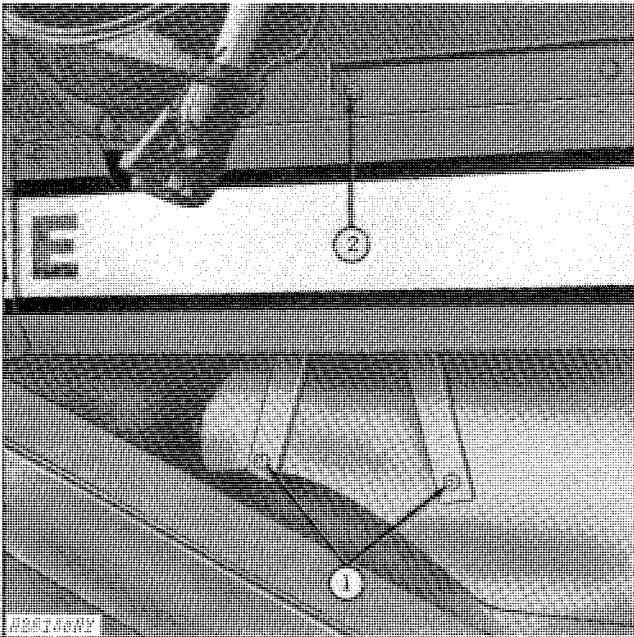

Fig. 15-Removing Shipping Braces
1. Remove and discard the two 5/16 x 3/4-inch cap screws, lock washers, and nuts attaching the two shipping braces to the unloading auger (Fig. 15).
2. Remove and discard the 5/16 x 1/2-inch cap screw, lock washer, and nut in the combine style line (Fig. 15). Discard the two shipping braces and insert a 5/16 x 1/2-inch self-tapping screw in the style line.